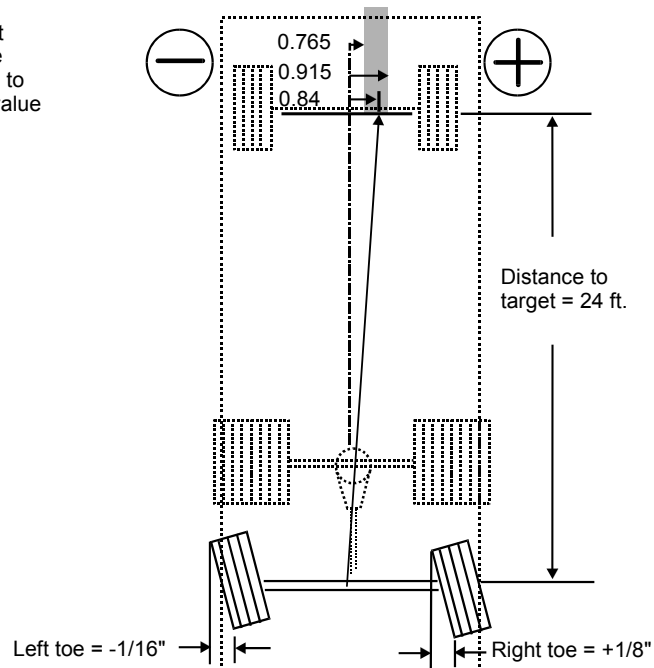

FIGURE 10: EXAMPLE CALCULATION
5. Align off-tracking of the tag within tolerances (Fig. 10).